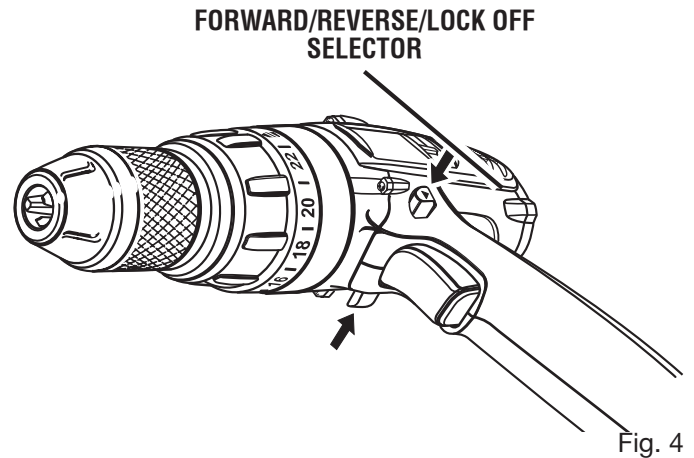

Fig. 4
See Figure 4 - 5.
See Figure 4.
- Lock the switch trigger by placing the direction of rotation selector in center position. See Figure 4. Loosen the chuck jaws from the drill bit.